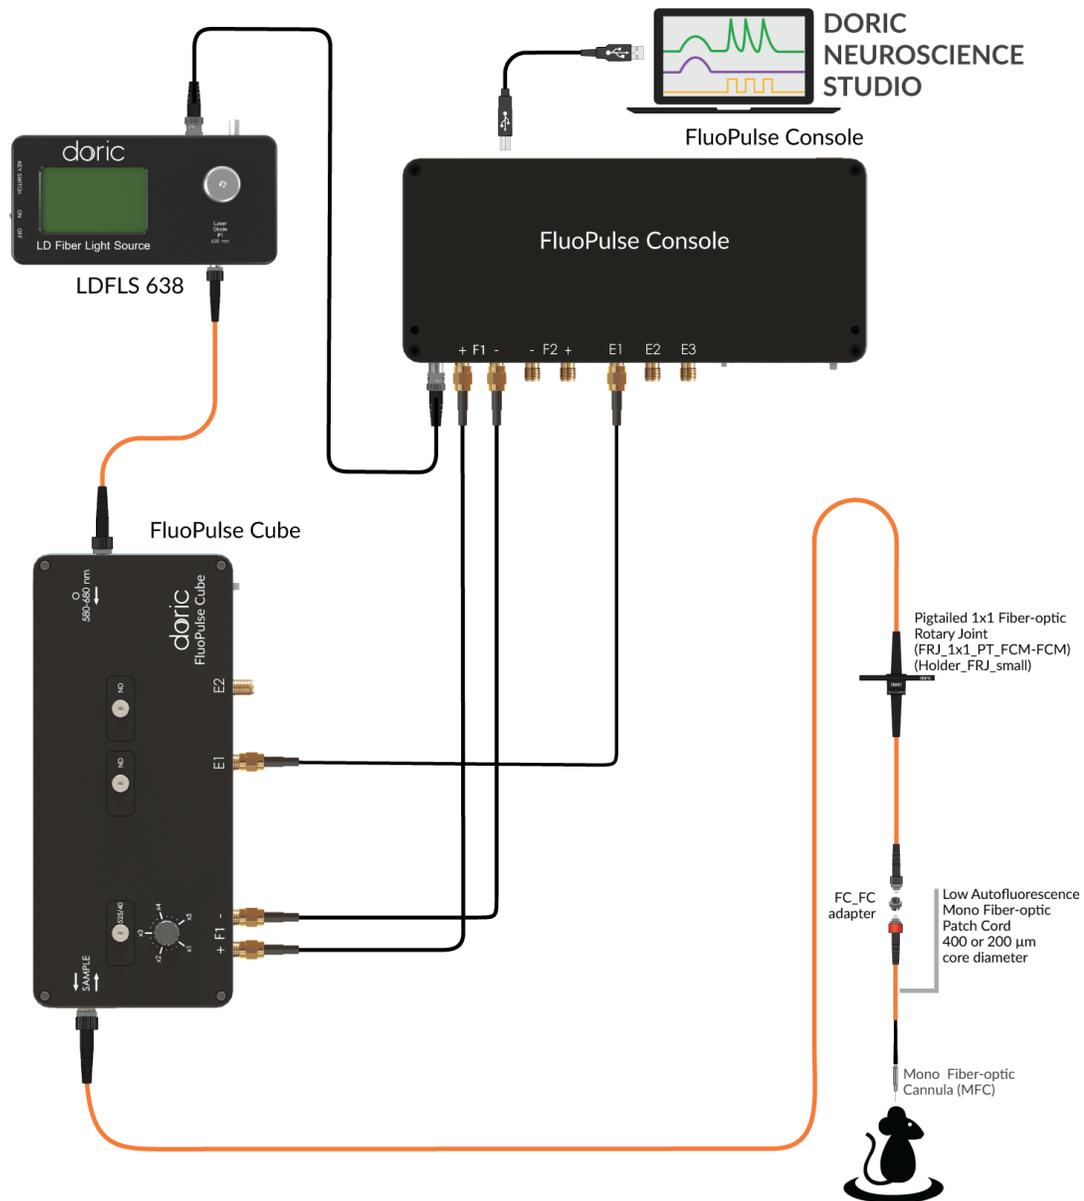

Figure 3.1: *FluoPulse™* System Schematic
1. **Sample port (S)** (FC/PC receptacle): Connects to a *Low-Autofluorescence Patch Cord* or a *Pigtailed Rotary Joint* going to the animal. The sample fiber port is an FC/PC optical fiber port where the fiber accessing the sample is inserted. We recommend using a 400 μm core diameter fiber to maximize signal collection and with 0.37 NA to minimize autofluorescence.
2. **Laser excitation ports (E)** (SMA connector): Excitation ports E1, E2 and E3 connect to the corresponding E ports of the *FluoPulse™ Console*. These ports receive digital trigger signals that initiate laser pulses. *FluoPulse™ Cube* has slots for up to three lasers. Depending on the configuration, the slots can be populated with diode lasers emitting at 405 nm, 450 nm, or 488 nm.
3. **Optogenetics port (O)** (FC/PC receptacle): Connects the cube to a light source using a patchcord to allow for simultaneous optogenetic stimulation of the recorded site in the animal. This is an optional port placed opposite to the sample port. It is intended for 560-570 nm or 630-640 nm light sources. The optogenetic light source is only possible if there is no spectral overlap with the second detection window.
4. **Fluorescence Detector Emission ports (F)** (dual SMA connectors): Two coaxial cables connect to the corresponding F ports of *FluoPulse™ Console*. These ports send the lifetime waveform signal from the detectors to the console. It is important to match the polarity of the detector outputs and inputs on the *FluoPulse™ Cube* and *Console*. In some configurations, the order of polarity is different and the coaxial cables will cross to match “-” with “-” and “+” with “+” (as in Fig. 3.1).
- **Neutral Density Filter:** Every laser has a filter slot for a Neutral Density (ND) filter. In case the laser excitation is too high for a specific sample, it is possible to attenuate a particular laser by inserting ND filters in the respective slot. The following ND filters are provided with the *FluoPulse™ Cube*: 10% & 25% and 100 % (empty drawer) transmission filters. Note that the power at the sample depends on the fiber type and other components inserted in the optical path as well.
1. **Excitation ports (E)** (SMA connector): Excitation ports E1, E2 and E3 connect to the corresponding E ports of the *FluoPulse™ Cube*. These ports send a digital trigger signal that triggers the corresponding laser.
2. **Fluorescence Detector Emission ports (F)** (dual SMA connectors): Twin coaxial cables connect to the corresponding F ports of *FluoPulse™ Cube*. The Console can connect up to two detectors on the *FluoPulse™ Cube* (F1 and F2). It is important to match the polarity between the *FluoPulse™ Cube* and *Console*. In some configurations (FLP6), the order of polarity is different, and the coaxial cables will cross to match “-” with “-” and “+” with “+” (as in Fig. 3.1).
This section details the step-by-step instructions to set-up a complete *FluoPulse™* system, as in the schematic in Fig. 3.1: